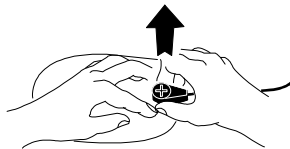

Figure 5-6 Disconnecting Defibrillation Cable from FAST-PATCH Electrodes
- 2 Pinch the snap connector with the fingers of the other hand and pull straight up (refer to Figure 5-6).